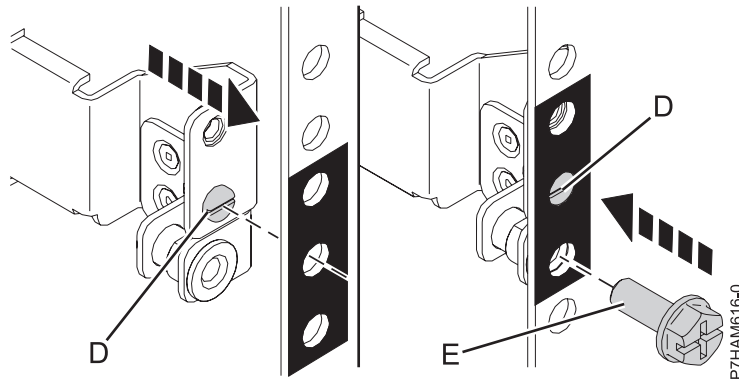

Figure 10. Mounting the rail to the rear of the rack
- e. Seat the alignment screw **(D)** of the rail into the middle EIA hole that you marked previously, as shown in Figure 10.
- f. Insert a mounting screw **(E)** through the bottom EIA hole, attaching the rail to the rear of the rack as shown in Figure 10.